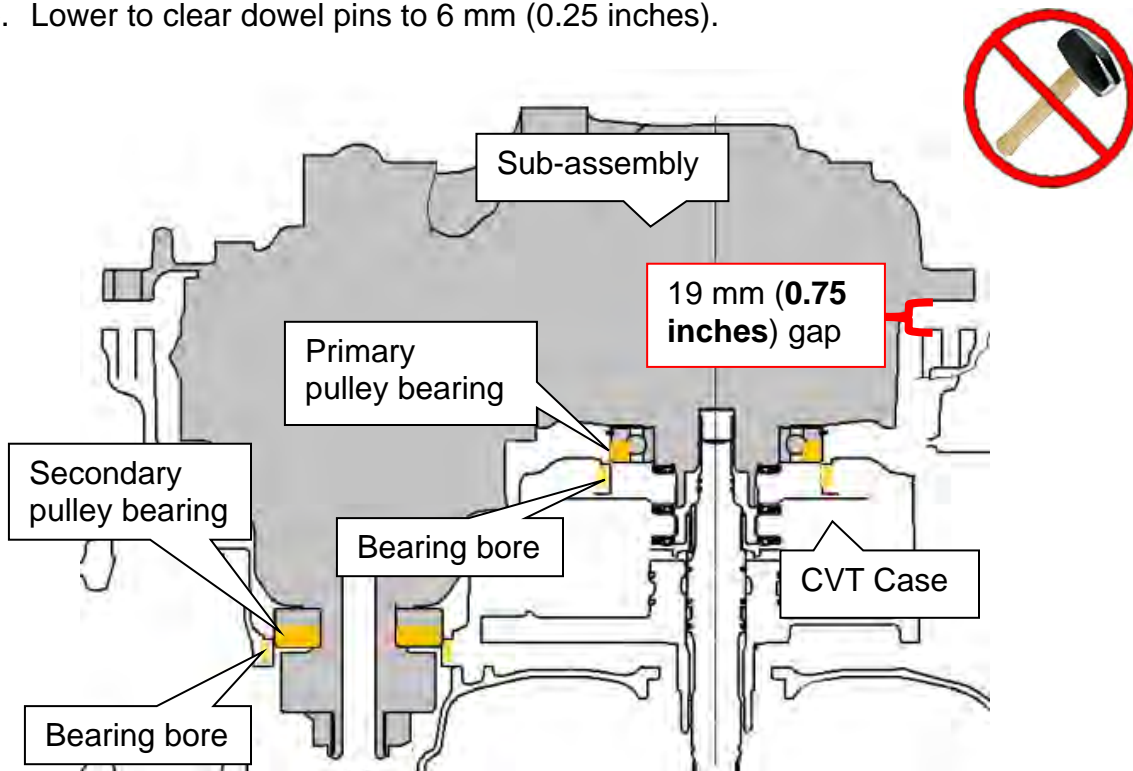

Figure 30F
- If the primary and the secondary pulley bearings do not align properly with their bores (Figure 30F) or are at an angle, a **gap of 19 mm (0.75 inches)** may be present.